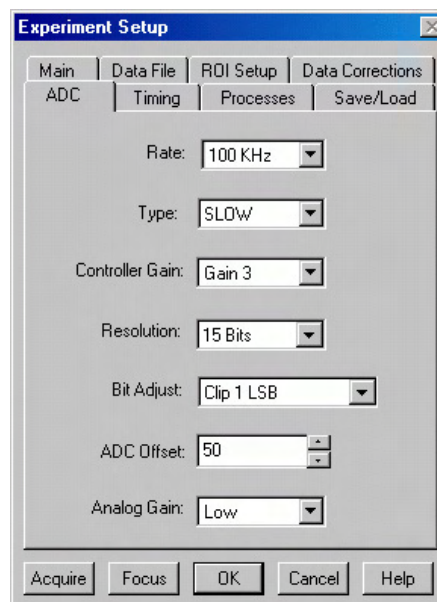

Figure 50. Generic ADC tab page
- On the **ADC** tab page (Figure 50), set the parameters as they apply to your particular system.